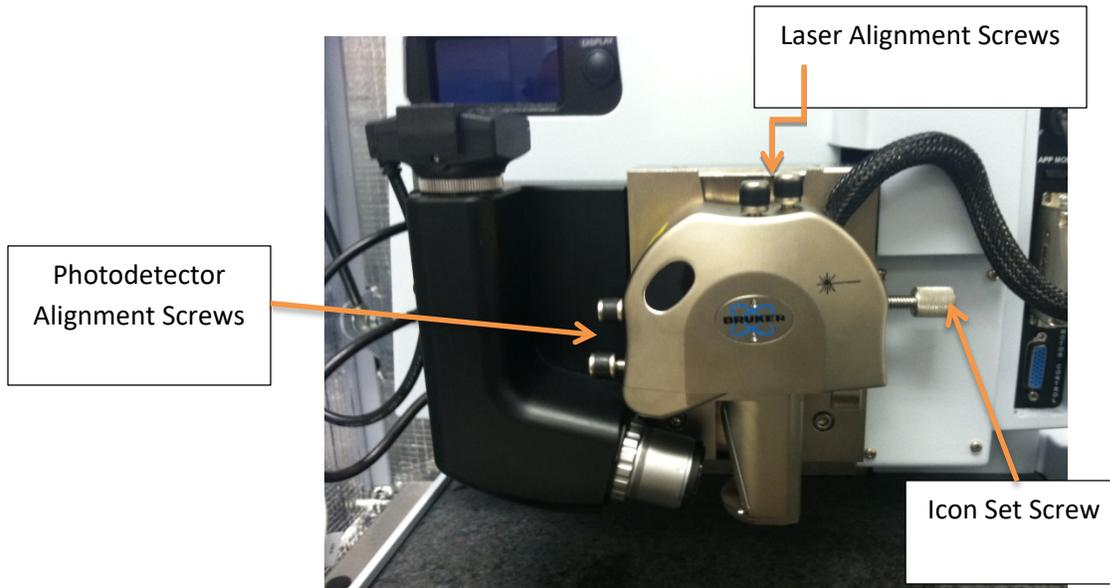

Figure 4. Dimension Icon head with alignment and set screws labeled.
- c) Loosen the Icon head from the AFM by rotating the set screw counterclockwise (Figure 4).
- c) Use the laser alignment screws (Figure 4) to adjust the laser until the cantilever is detected (red beam will appear split on the paper) and the SUM is maximized.
- d) Use the photodetector alignment screws (Figure 4) to center the laser reflection on the position sensitive photodiode (quad detector).
- f) Unlock the Icon head by turning the set screw counterclockwise (Figure 4).